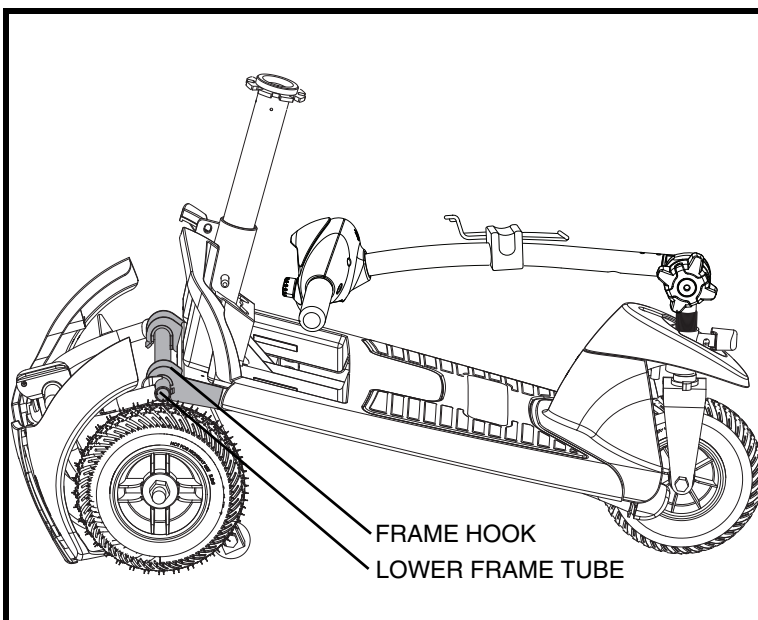

Figure 23. Frame Separation
4. Slowly separate the two sections of the Travel Scooter. **See figure 23.**
**NOTE:** Before attempting assembly, tilt the rear half of the Travel Scooter slightly back on the anti-tip wheels as show in figure 23.
1. Use the seat post to lift the front section as you align the frame hooks of the front section with the lower frame tube of the rear section. **See figure 23.**